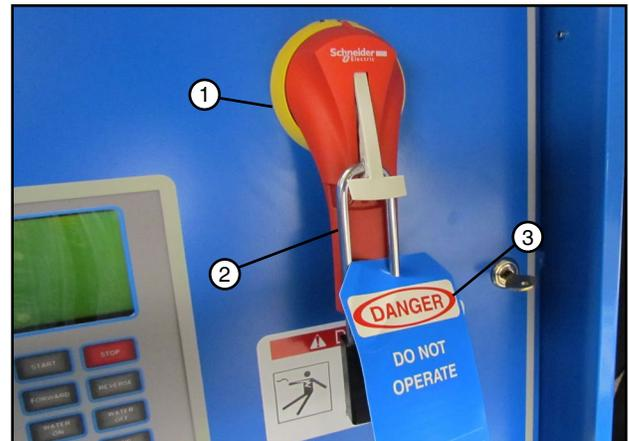

Figure 81-2 1. Main Disconnect 2. Lock 3. Blue Tag
2. Turn the power off at the main disconnect and secure with a lock and attach filled out blue (OSHA safety color code) tag. See Figure 81-2.